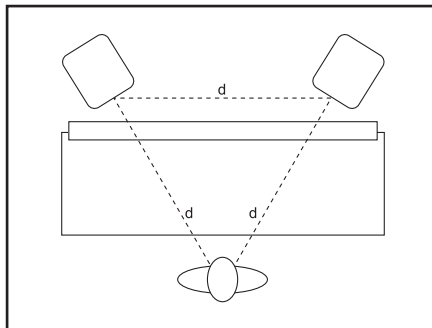

Figure 3.1
- *Mid-Field Configuration* – This configuration is similar to the close-field configuration. It is normally used with larger monitors, or when the monitors are too large or heavy for the meter bridge. This setup has the potential for a larger sweet spot and better spatial imaging. Make sure that the height of the woofer is above the height of the console. (Figure 3.1)